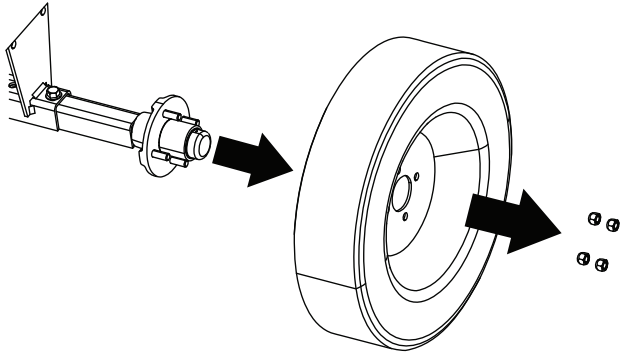

Figure 36
2. Remove the lug nuts securing the wheel to the hub (Figure 36).